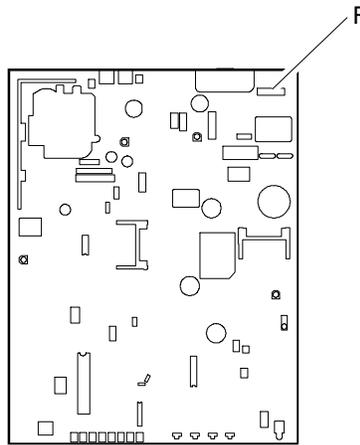

Fig. 6-5 Locating the Fuse
- If the display unit does not work due to a blown fuse, the fuse needs to be replaced. The location of the fuse (F) on the main board is shown in figure 6-5.